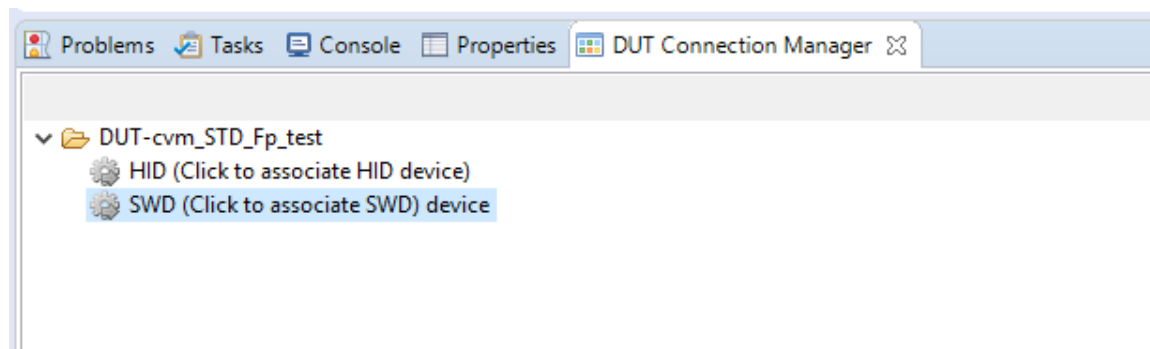

Figure 27: DUT Connection Manager View (for SWD)
- Click on "**DUT Connection Manager**" and click on "SWD" to connect to J-Link Lite debugger (Figure 27).